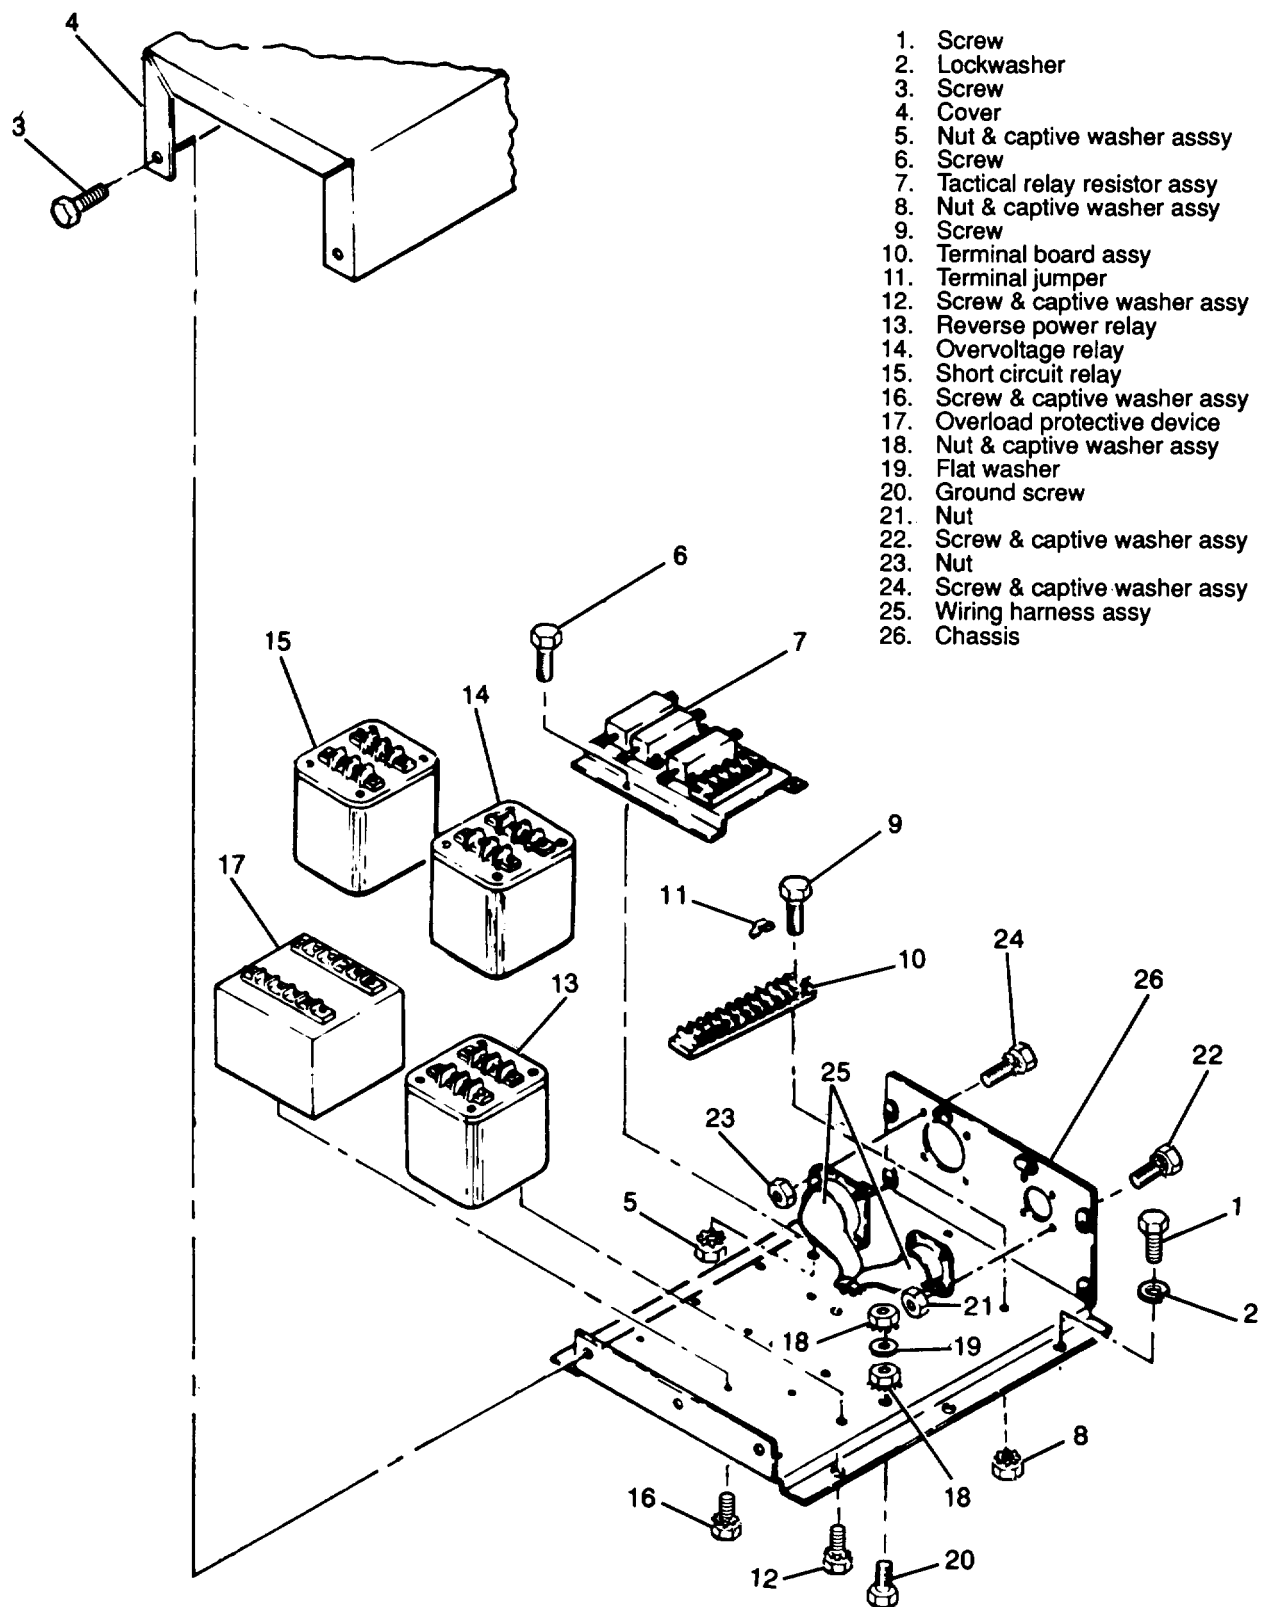

Figure 3-111. Tactical Relay Assembly, Exploded View
- (1) Disconnect electrical connectors to the tactical relay assembly.
- (2) Remove screws (1, figure 3-111) and lockwashers (2) to remove relay assembly from generator set.
- (1) Remove screw (1, figure 3-111), and lockwasher (2).
- (2) Remove screw (3), and cover (4).
- (3) Remove nut & captive washer assembly (5), screw (6) and tactical relay resistor assembly. (7).
- (4) Remove nut & captive washer assembly (8), screw (9), terminal board assembly (10) and terminal jumper (11).
- (5) Remove screw & captive washer assembly (12), reverse power relay (13), overvoltage relay (14) and short circuit relay (15).
- (6) Remove screw and captive washer assembly (16) and overload protective device (17).
- (7) Remove nut & captive washer assembly (18), flatwashers (19), ground screw (20), nut (21), screw & captive washer assembly (22), nut (23), screw & captive washer assembly (24), and wiring harness assembly (25), from Chassis (26).